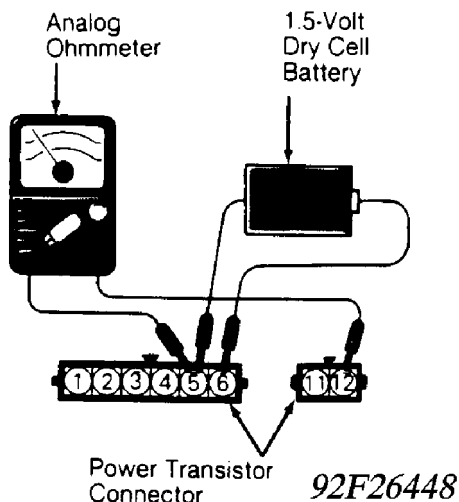

Fig. 8: Testing Power Transistor (Mirage)
1) Disconnect power transistor connector. Using a 1.5-volt dry cell battery, connect negative end of 1.5-volt battery to terminal No. 5 of power transistor and positive end of 1.5-volt battery to power transistor terminal No. 6. See Fig. 8.